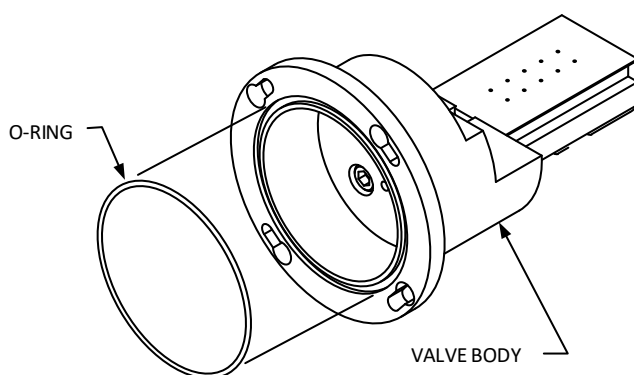

Fig. 7.15. Installing the O-Ring on the Valve Body
18. Remove the old O-ring from the Valve Body (see Figure 7.15).